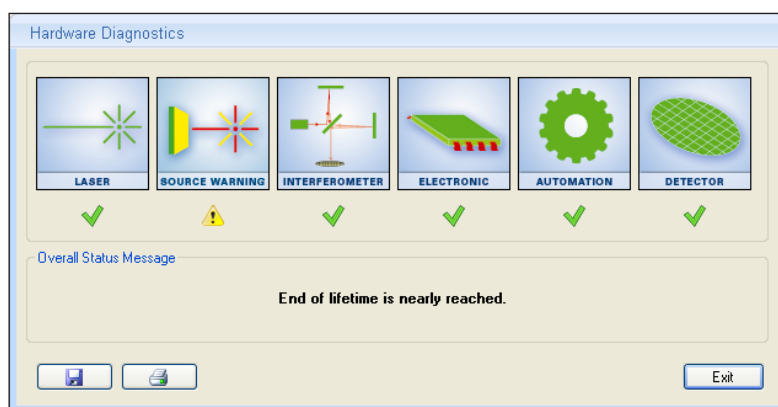

Figure 20. Hardware diagnostics dialog - Instrument Status
2. On the back of the instrument, loosen the 4 cover plate Torx® screws with the Torx® TX20 screw driver supplied (Figure 20).
10. Attach the cover plate and fasten the 4 Torx® screws (Figure 20). Plug the power plug into the power outlet again.
3. Remove the cover plate from the rear side by loosening the 4 Torx® screws (Figure 20) with the Torx® screw driver supplied.
8. Attach the cover plate and fasten the 4 Torx® screws again (Figure 20).